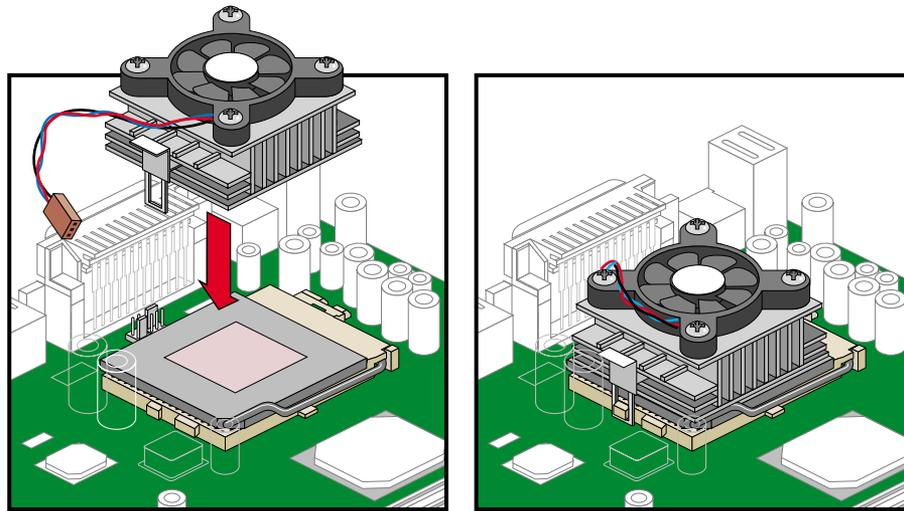

Figure 3-4 Attaching Fan/Heatsink to CPU
4. Attach one side of the fan/heatsink metal bracket to the CPU socket and then gently push down the other side of the metal bracket until it locks in place. Figure 3-4 illustrates the procedure.